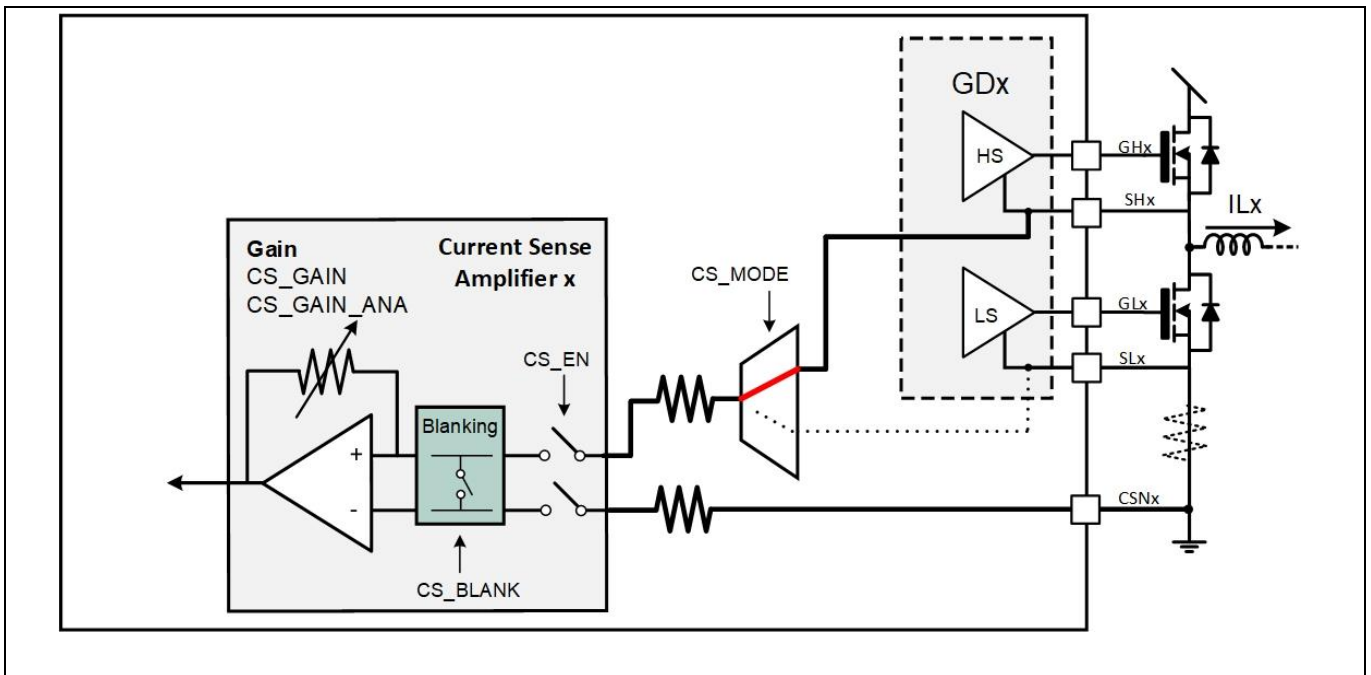
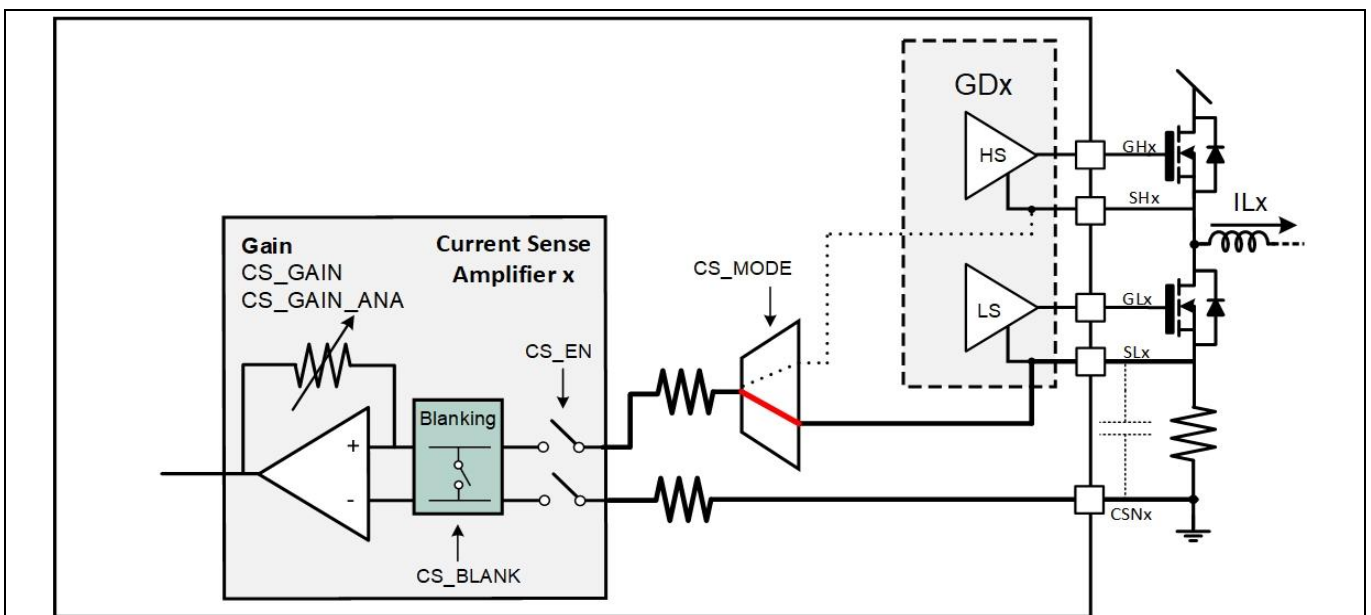

Figure 38 System diagram of a low side  $R_{DS(on)}$  current sensing configuration utilizing integrated current sense amplifiers
Figure 39 System diagram of an external shunt current sensing configuration utilizing integrated current sense amplifiers
In RDS(ON) mode, 6EDL7141 connects the drain of the low side MOSFET to the positive input of the current sense amplifier. The negative input is connected to the source as shown in Figure 38. This is in contrast to the external shunt configuration shown in Figure 39, where the positive input of the current sense amplifier is connected to the source of the low side MOSFET. Internal series resistors help filtering possible noise before the amplification takes place. Depending on the circuits and board design, a small filtering capacitor between SLx and CSNx pins can help cleaning up the current signal.